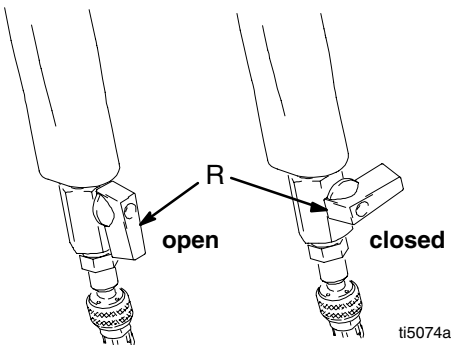

Fig. 10
- b. Open fluid supply valve (H).
2. After the 1/2-thickness material begins to enter the hose, fill the pressure pot (F) with the prepared texture material. Install the float assembly on top of the material to prevent air from disrupting material flow.
4. Open the gun air valve (R) (see Fig. 10) to be sure air pressure is relieved. Leave the gun partially open. The system primes easier if a little air is supplied to the gun.